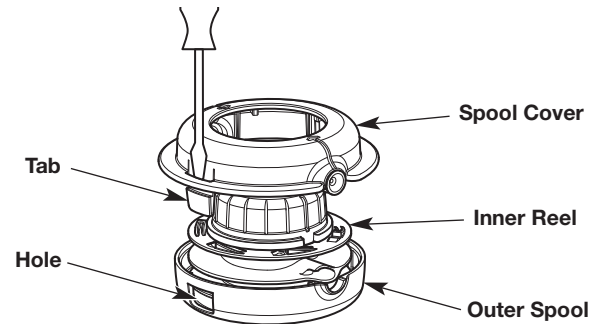

Fig. 24
- c. Gently tilt the screwdriver to unlock the tab from the hole (Fig. 24).
- e. Remove the spool cover (Fig. 24). **DO NOT** attempt to remove any other parts of the cutting head.
- g. Use a clean cloth to clean the inner reel, outer spool and spool cover (Fig. 24).
- h. Align the tabs on the spool cover with the holes on the outer spool (Fig. 24). Push the spool cover onto the outer spool until the tabs securely snap into the holes.